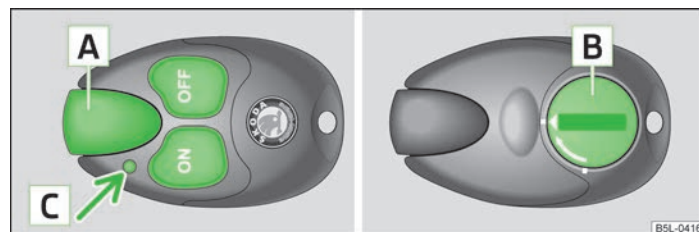

Fig. 111 Auxiliary heating: Radio remote control
- For switching on, press the button » Fig. 111.
If the battery is properly charged, the effective range is up to 600 m. To switch on/off the auxiliary heating, hold the radio remote control vertically with the antenna **A** » Fig. 111 facing upwards. The antenna must not be covered with the fingers or the palm of the hand during this process. Obstacles between the radio remote control and the vehicle, bad weather conditions and a weaker battery can clearly reduce the range.
The indicator light in the radio remote control **C** » Fig. 111 indicates after a key-stroke if the remote control signal was received by the auxiliary heating and if the battery is adequately charged.
If the indicator light on the radio remote control indicates a weak or discharged battery, **C** » Fig. 111 on page 101, it must be replaced. The battery is located under a cover **B** » Fig. 111 on page 101 on the back of the radio remote control.